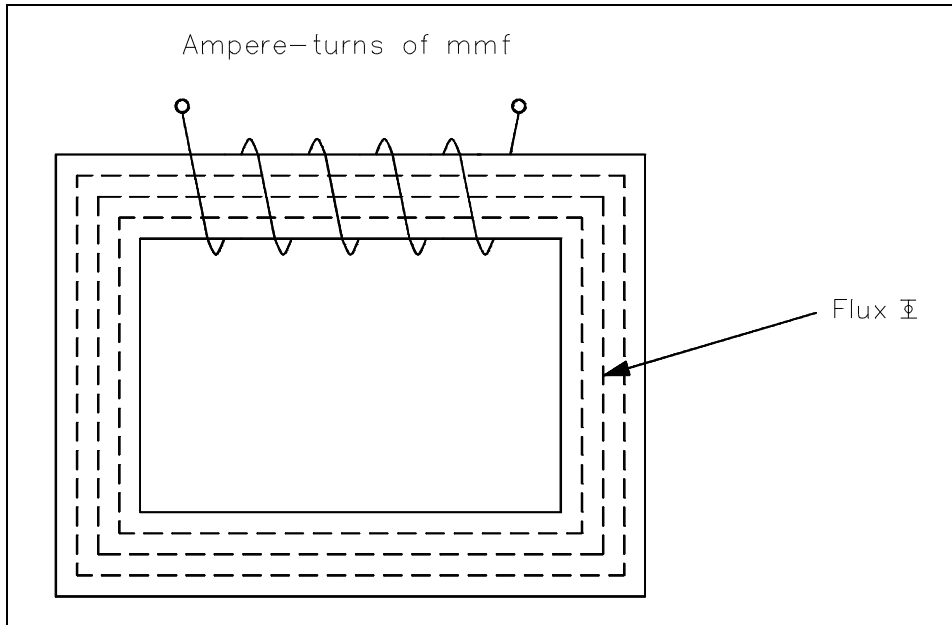

Figure 26 Magnetic Current with Closed Iron Path
A magnetic circuit can be compared with an electric circuit in which EMF, or voltage, produces a current flow. The ampere-turns (NI), or the magnetomotive force (F_m or mmf), will produce a magnetic flux Φ (Figure 26). The mmf can be compared with EMF, and the flux (Φ) can be compared to current. Equation (1-16) is the mathematical representation of magnetomotive force